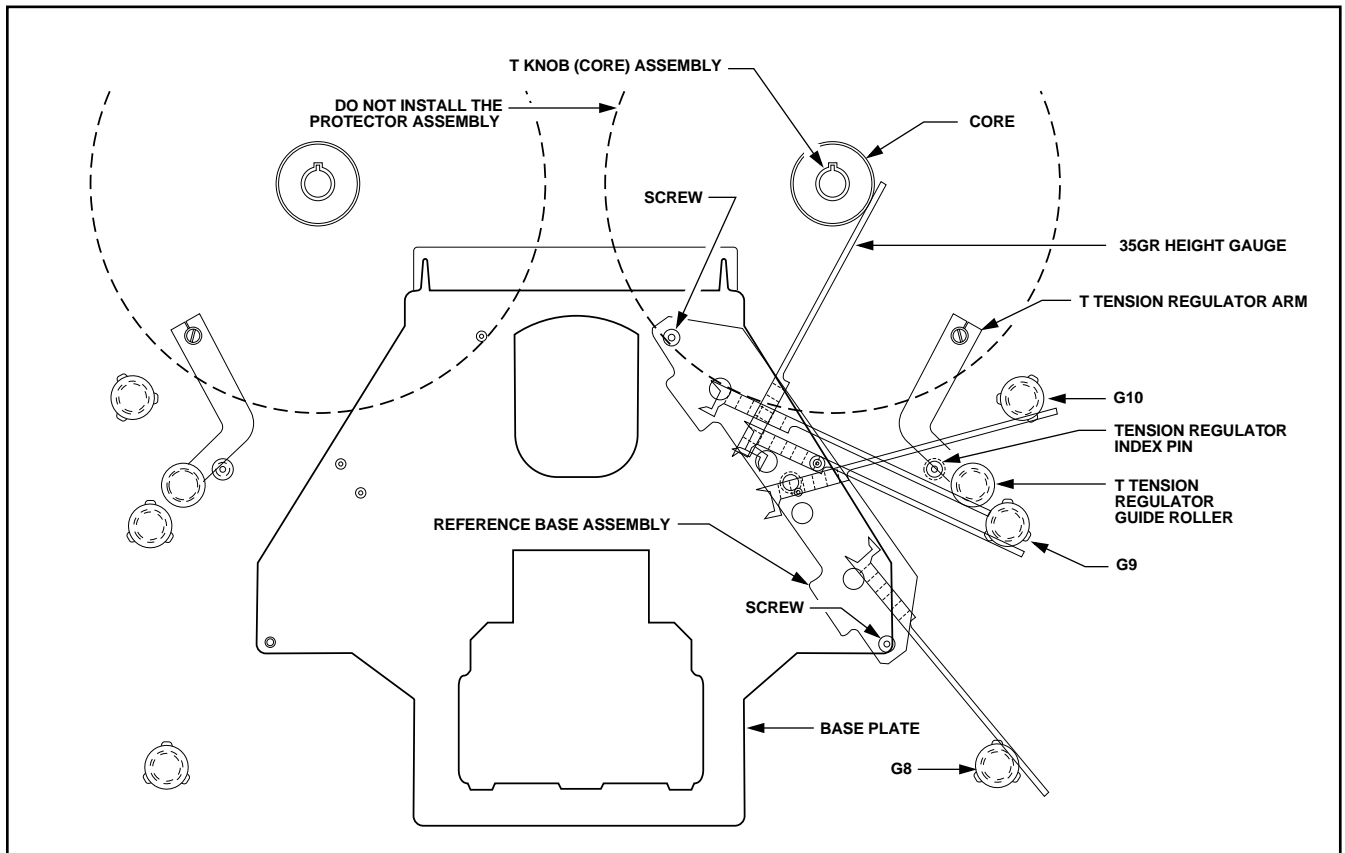

Figure 11
- Install the reference base assembly (J-6515-150-A) to the posts affixing the FTP panel on the base plate using an L wrench (diagonal length 3, M3) at two locations as shown in Figure 11.